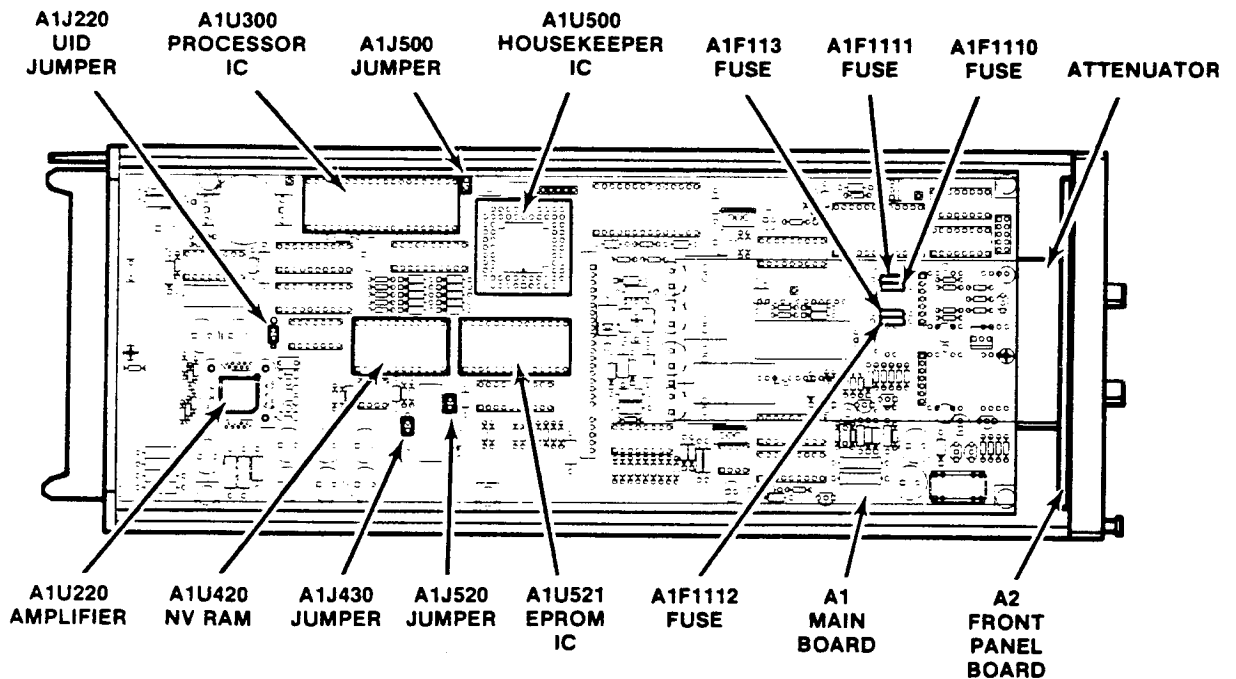

Figure 1. Main circuit board A1.
- () 1. Remove U521, EPROM microcircuit, using an Insertion - Extraction Pliers (such as General Tool's pn U505BG, a 28-pin type). Refer to Figure 1, for component location.
- () 3. Move the UID Term Conn Link jumper marked SNA on the Main circuit board A1, to the "S" position (two lower pins). Refer to figure 1.